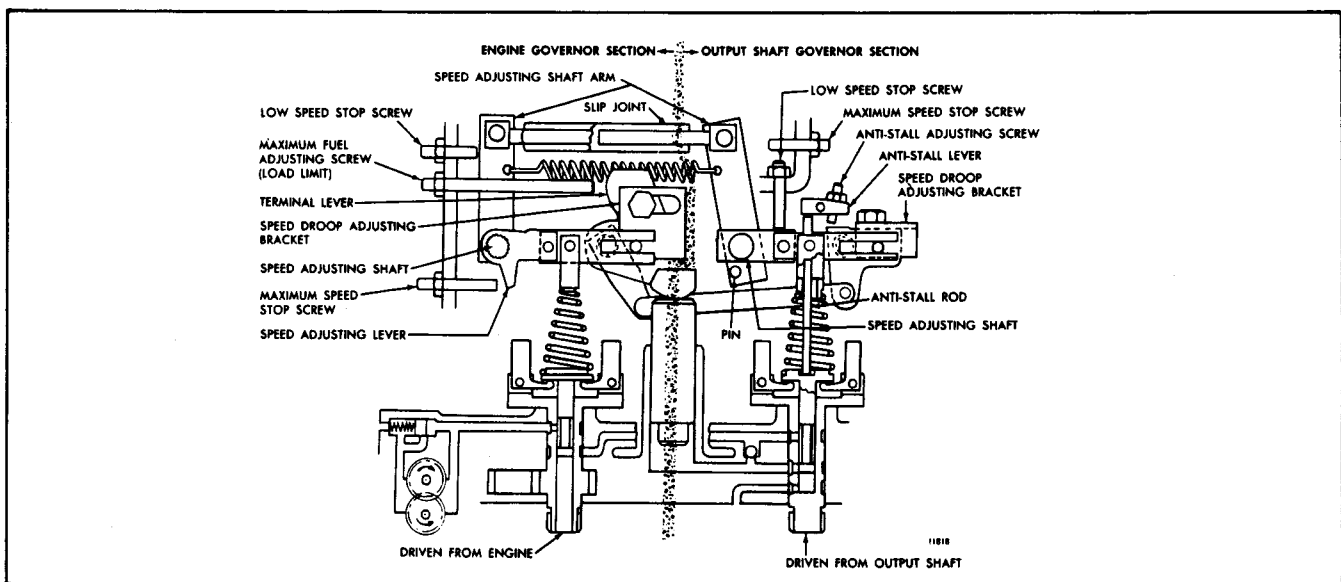

Fig. 2 - Schematic Diagram of Single Lever Dual Governor
1. Loosen the lock nut and back out the output shaft governor maximum speed stop screw (Fig. 2) until it extends approximately 1" from the face of the lock nut when the nut is tight against the housing.